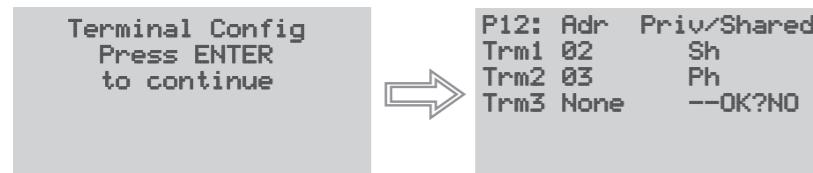

Fig. 6
- 再次按下↓键，依次将显示如Fig. 6的内容；
- pressing ↓ again displays the screens shown in Fig. 6, in sequence;